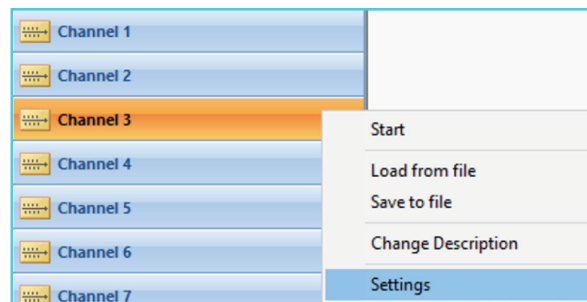

Figure 4.1.4 'Load from file' for an individual channel (Channel 3 here)
2. Make a stimulation protocol for a single specific channel by right clicking on that given channel and select 'Settings' (figure 4.1.4).